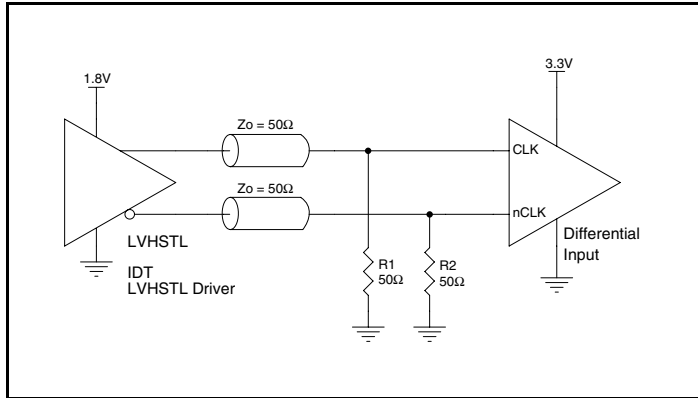

**Figure 2. Recommended Schematic for Wiring a Differential Input to Accept Single-ended Levels**
*Figure 2* shows how a differential input can be wired to accept single ended levels. The reference voltage  $V_{REF} = V_{CC}/2$  is generated by the bias resistors  $R1$  and  $R2$ . The bypass capacitor ( $C1$ ) is used to help filter noise on the DC bias. This bias circuit should be located as close to the input pin as possible. The ratio of  $R1$  and  $R2$  might need to be adjusted to position the  $V_{REF}$  in the center of the input voltage swing. For example, if the input clock swing is  $2.5\text{V}$  and  $V_{CC} = 3.3\text{V}$ ,  $R1$  and  $R2$  value should be adjusted to set  $V_{REF}$  at  $1.25\text{V}$ . The values below are for when both the single ended swing and  $V_{CC}$  are at the same voltage. This configuration requires that the sum of the output impedance of the driver ( $R_o$ ) and the series resistance ( $R_s$ ) equals the transmission line impedance. In addition, matched termination at the input will attenuate the signal in half. This can be done in one of two ways. First,  $R3$  and  $R4$  in parallel should equal the transmission